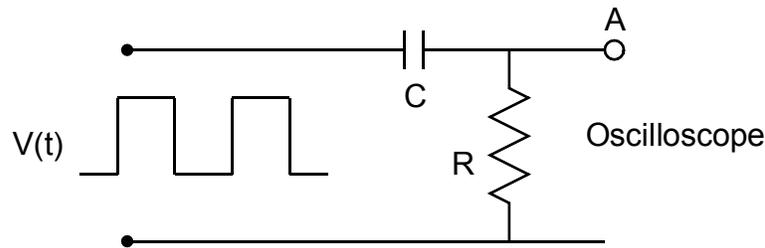

Figure 4: Use a unipolar (no negative values) square wave as input.
- Reverse the positions of R and C , as shown in Fig. 4. Use the same values as in parts 1(b) and 2.